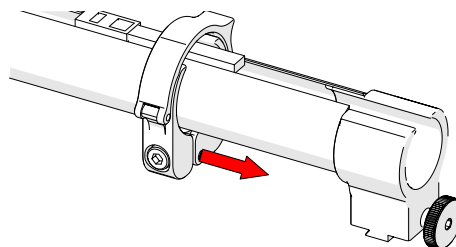

Fig. 96 - Slide clamp onto mount
3. Slide the clamp over the tube and cable management dovetail mount pinching the tube in between (*Fig. 96*).